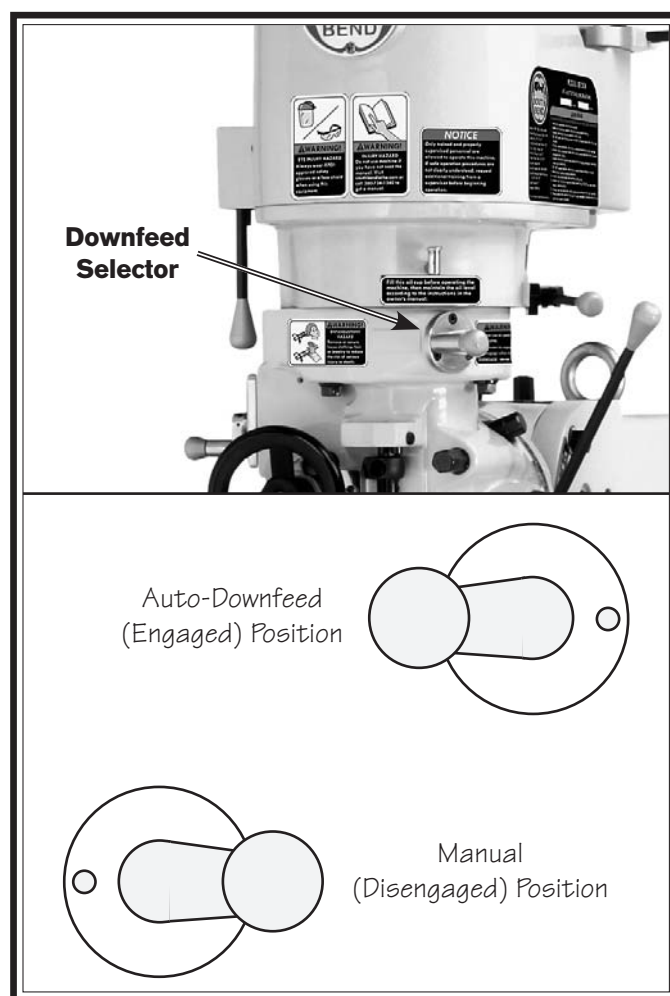

Figure 39. Downfeed selector.
2. To set the downfeed for manual control, pull the downfeed selector knob out (see **Figure 39**), then rotate it clockwise until the selector pin under the knob seats in the forward manual (disengaged) position.